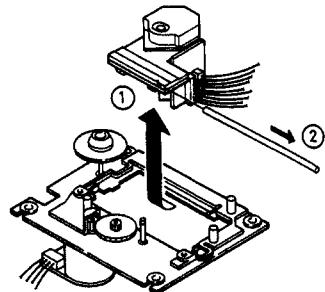

Figure 10
6. Take out the pick-up ①. Then pull out the shaft ②. (See Figure 10)